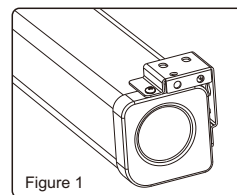

Figure 1
2. There are two ways for wall brackets to fix on the housing. As you can see on the figure 1, which is our normal fixed way (namely factory set). While the other fixed way is to interchange the left and right wall brackets, and then fix onto the housing (namely functional installation way, as figure 2).
Using a tape measure, measure the distance between the two keyholes on the casing (Figure 1). According to the measurement, use the drill to drill identical holes of the appropriate size on the wall (use a smaller drill bit than the actual screws) and ensure that it is level (Figure 2 & 3). Screw in the appropriate screws, either 5 x 40 by itself for wood walls or with anchors for drywalls, leaving enough space at the end to hang the casing (Figure 4). To ensure that the screen is level, use a level to check (Figure 5).
Using a tape measure find out the distance between the two keyholes on the casing (Figure 1). According to the measurement, use the drill to drill identical holes of the appropriate size on the ceiling and ensure that it is level (Figure 2 & 3). Screw in the hook screws (not provided), and lift the screen into the hook screws to hang (Figure 4). To ensure that the screen is level, use a level to check (Figure 5).
Using a tape measure, measure the distance between the two keyholes on the casing (Figure 1). According to the measurement, use the drill to drill identical holes of the appropriate size on the wall (use a smaller drill bit than the actual screws) and ensure that it is level (Figure 2 & 3). Screw in the appropriate screws, either 5 x 40 by itself for wood walls or with anchors for drywalls , leaving enough space at the end to hang the casing (Figure 4). To ensure that the screen is level, use a level to check (Figure 5).